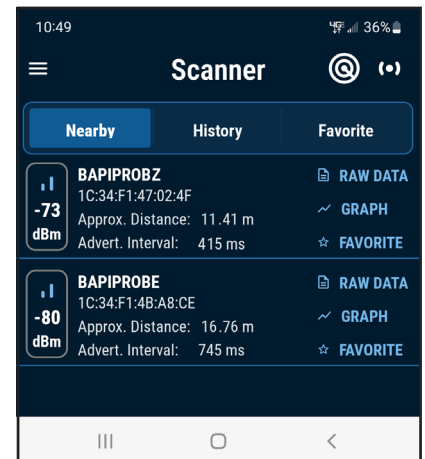

Fig. 2: BAPI Site Verification App screen showing a signal strength reading of -73 dBm and -80 dBm for two sensor/transmitters.
5. Open the Site Verification App on your phone. The app will automatically detect any BAPI sensor/transmitters and ignore other Bluetooth devices. They will appear as “BAPIPROBZ” or “BAPIPROBE” with the serial number below (Fig 2). BAPIPROBZ with a “Z” at the ends signifies that the unit is not paired with a receiver as yet. BAPIPROBE with an “E” at the end signifies that the unit is currently paired with a receiver. In this case, the top BAPIPROBZ unit is the one that is being used for the test, so this is the sensor/transmitter that is placed at the receiver location as described in Step #3, and also the unit that is used in the app to show the signal strength.